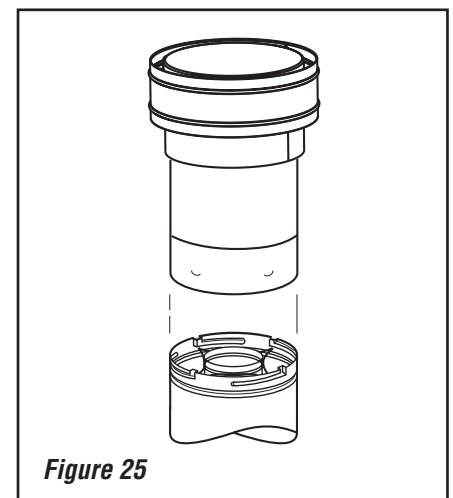

Figure 25
K. Install the vertical termination - The final step involves installation of the SV4.5CGV-1 Vertical Termination. Extend the vent sections to the height as shown in the "Vertical vent termination section" on **Page 7**. The SV4.5CGV-1 Vertical Termination (**Figure 25**) can be installed in the exact same fashion as any other **Secure Vent** section. Align the termination over the end of the previously installed section, adjusting the radial alignment until the four locking dimples of the termination are aligned with the inlets of the four incline channels of the last vent section. Push the termination down until it fully engages, then twist the termination clockwise running the dimples down and along the incline channels until they are seated at the end of the channels.